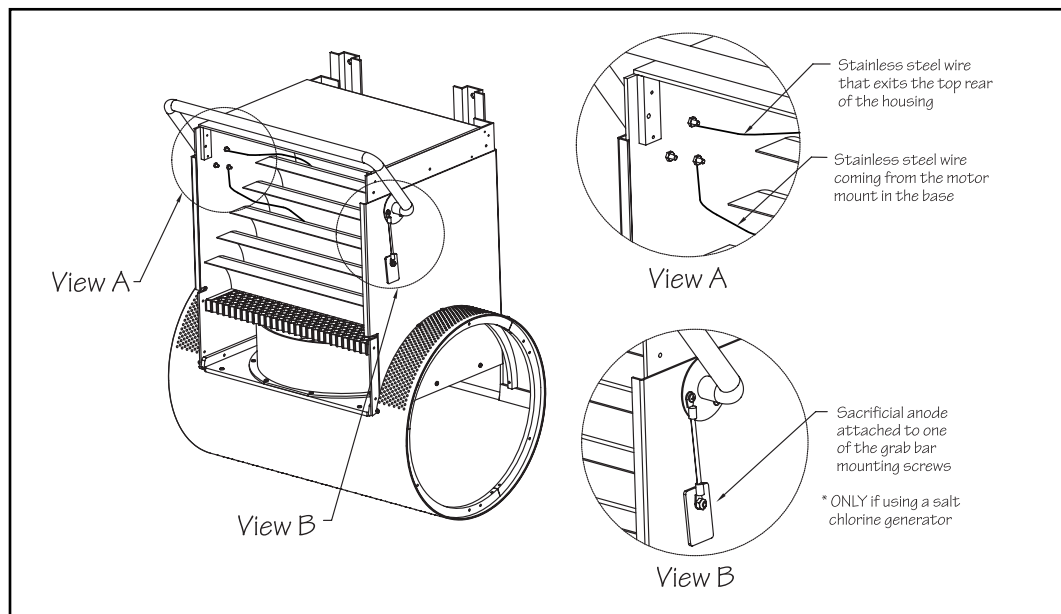

Fig. 6.8
6.10 Install the stainless steel grab bar to the upper housing using the provided stainless steel screws and lock nuts. Feed the stainless steel wire attached to the motor mount up through the horizontal grill. Then feed the wire up between two of the turning vanes. Place the stainless steel wire (from the motor mount in the base) around the bottom screw on the left side before tightening down on the nut. Place the second stainless steel wire (that exits the top rear of the upper housing) around another screw under one of the grab bar mounting screws (Fig 6.8). **The sacrificial anode should ONLY be used in pools equipped with a salt-chlorine generator for sanitation.**